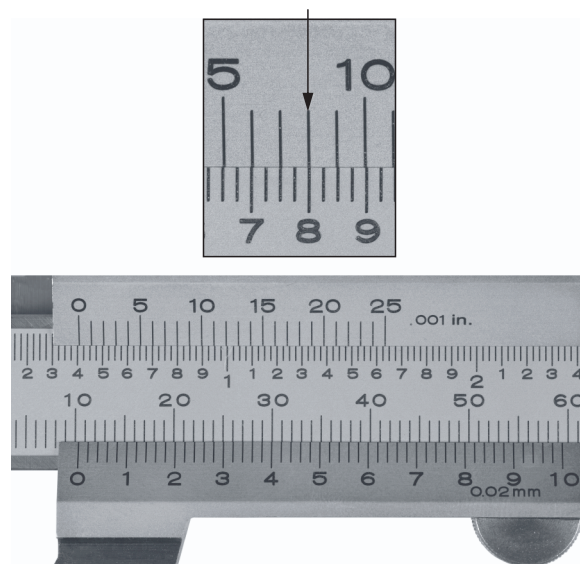

Figure 29: Reading a vernier caliper.
1. Which of the following measurements corresponds to the reading in inches shown in Figure 29? The small arrow shows a detail of the vernier scale.